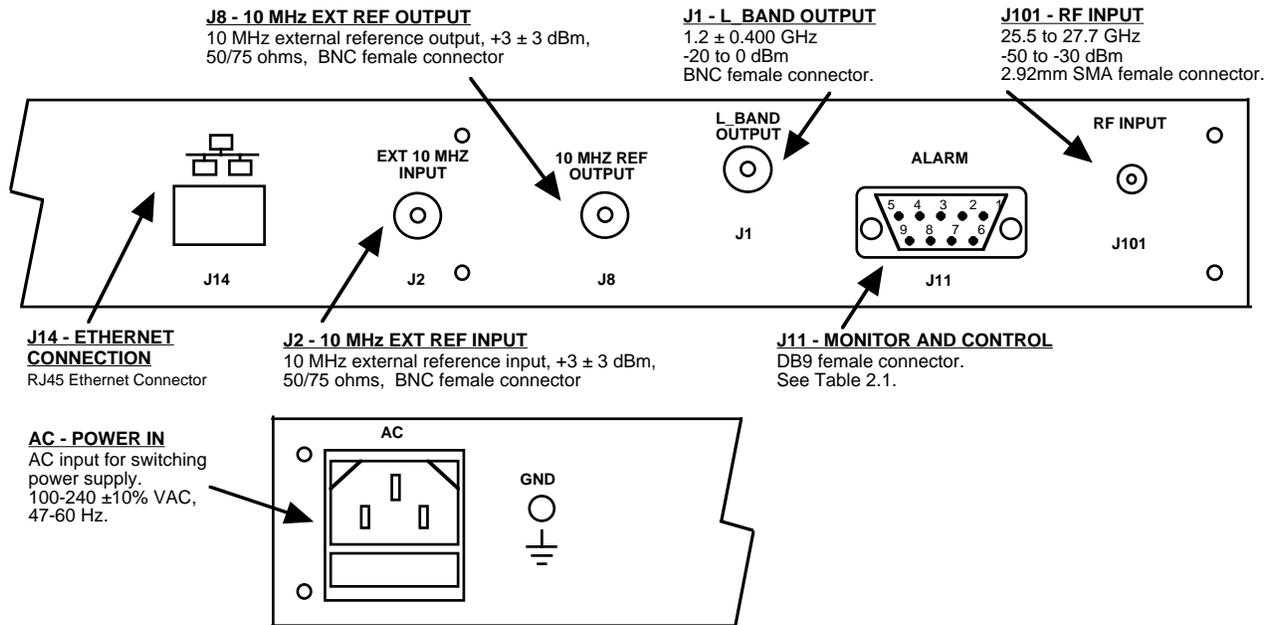

FIGURE 2.1 3116-277#-1200 Rear Panel I/O's
Figure 2.1 shows the input and output connectors on the rear panel.
1. Connect a -50 dBm to -30 dBm signal to RF IN, J101 (Figure 2.1).